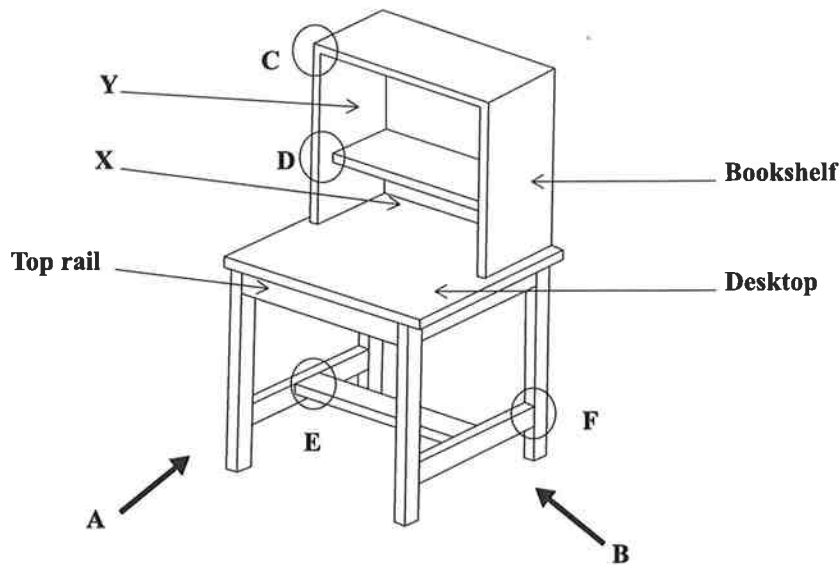

Figure 1. Sketch of combined desk and bookcase
1. Figure 1 below shows a pictorial drawing of a combined desk and bookcase. The bookcase shows two compartments but it is to be redesigned to show three compartments. The lower compartment labelled 'X' should be divided to store compact disks (CDs) and newspapers while the upper compartment labelled 'Y' should be used to store textbooks. The top rail for the desk should be redesigned to receive two small drawers for storing pens, pencils and other small items.
- (b) State the MOST suitable wood joint to be used for EACH of the sections labelled C, D, E and F in Figure 1. **(4 marks)**